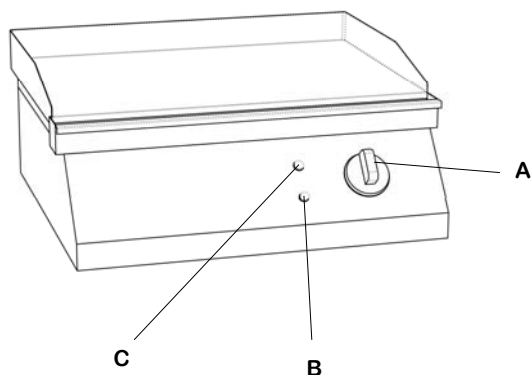

Fig. 1
2. Turn the thermostat (A fig.1) until the temperature setting required is reached. The heating light (B fig.1) will come on and will go off when the set teperature is reached. The light (C fig.1) indicates that the appliance is connected to the power supply.
1. Put the thermostat (A fig.2) into position "0", and check that the lights (B fig.2) and (C fig.1) are extinguished.